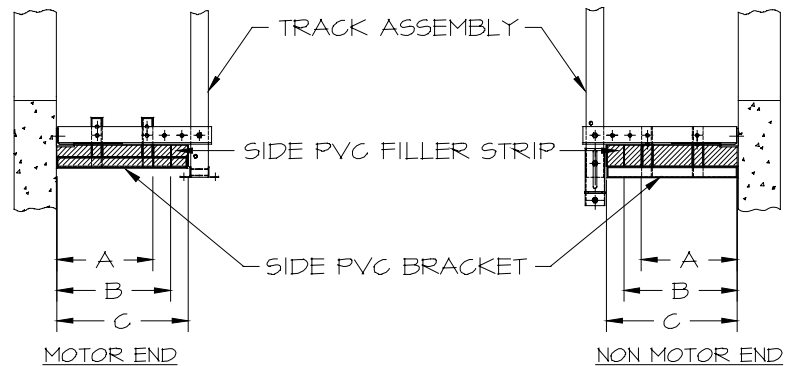

FIG. 11
- a. **Trim** Side P.V.C. Brackets and Side P.V.C. Filler Strips to proper length, if necessary (Figure 11).
- b. **Attach Side P.V.C. Brackets to Perpendicular Angle** using supplied 3/8" nut and bolt (Figure 11).